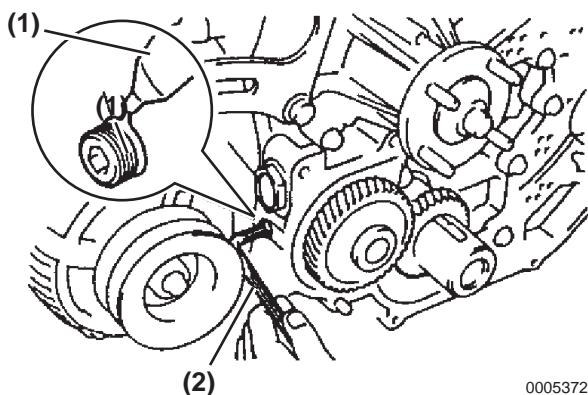

Figure 8-20
9. Apply TOYOTA P/N 08833-00070, THREE BOND 1344, LOCTITE 242 or equivalent adhesive (**Figure 8-20, (1)**) to the threaded portion of taper screw plug (2 to 3 threads).
10. Tighten the taper screw plug using a 5 mm hexagon wrench (**Figure 8-20, (2)**). **NOTICE:** *Avoid contaminating the oil pan and cylinder block mounting surfaces with oil.*